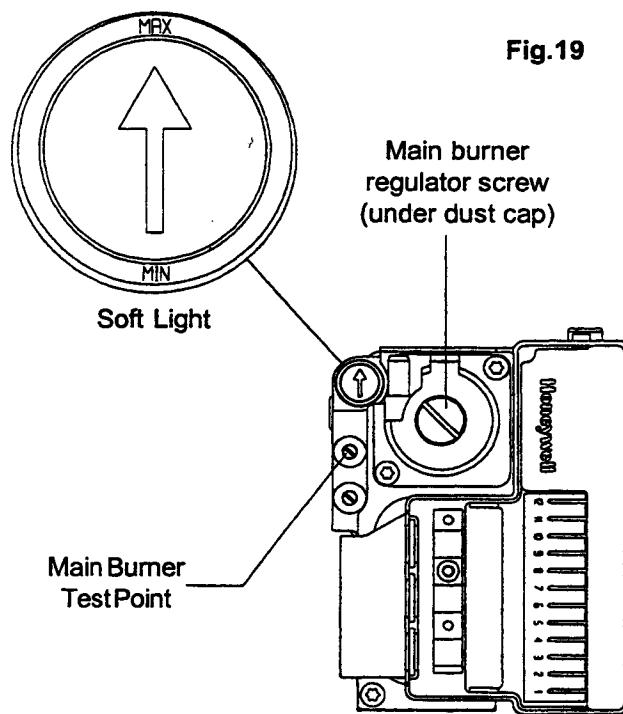

Fig.19
6.6.3 Locate the main burner pressure test point (Fig. 19) and remove the screw in an anticlockwise direction. Attach a suitable pressure gauge. Turn on the boiler for central heating & adjust the thermostat knob (15) to its maximum setting.
Referring to fig. 19, remove the dust cap on the gas valve regulator by unscrewing in a counter clockwise direction.
2. Referring to fig. 19, remove the dust cap on the soft light regulator by unscrewing in a counter clockwise direction.